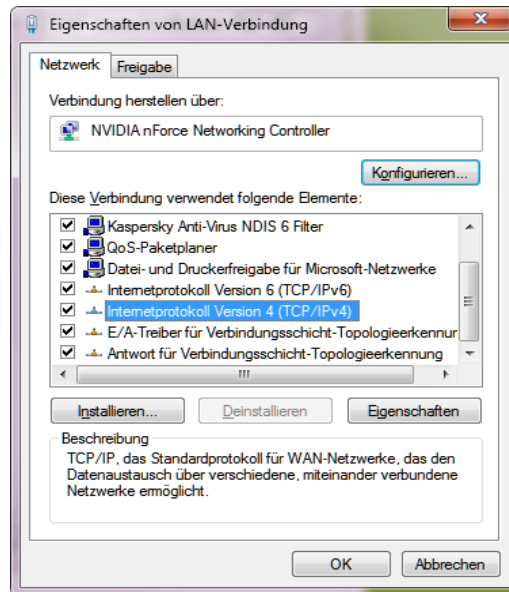

Figure 4: IP-Configuration Menu
2. Reconfigure the IP configuration under menu "Internet protocol version 4" of your PC's network interface and then press "properties" (see Figure 4)